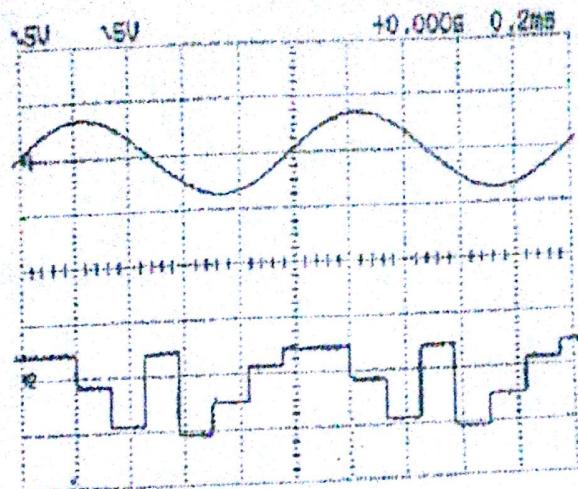

Figure 5-12. Message signal(Above) & Clipping D/A conversion output(below)
- (19) Compare and observe input message signal and demodulation message signal by connecting CH-1 input probe of oscilloscope to AUDIO OUTPUT of PCM I module.
- (20) Connect CH-2 input probe of oscilloscope to J3 terminal of PCM I module.
- (21) Make the ramp voltage to 6[Vp-p] by adjusting Amplitude ADL control terminal of RAMP GENERATOR from PCM I. At that time, oscilloscope would be appeared as figure 5-12.